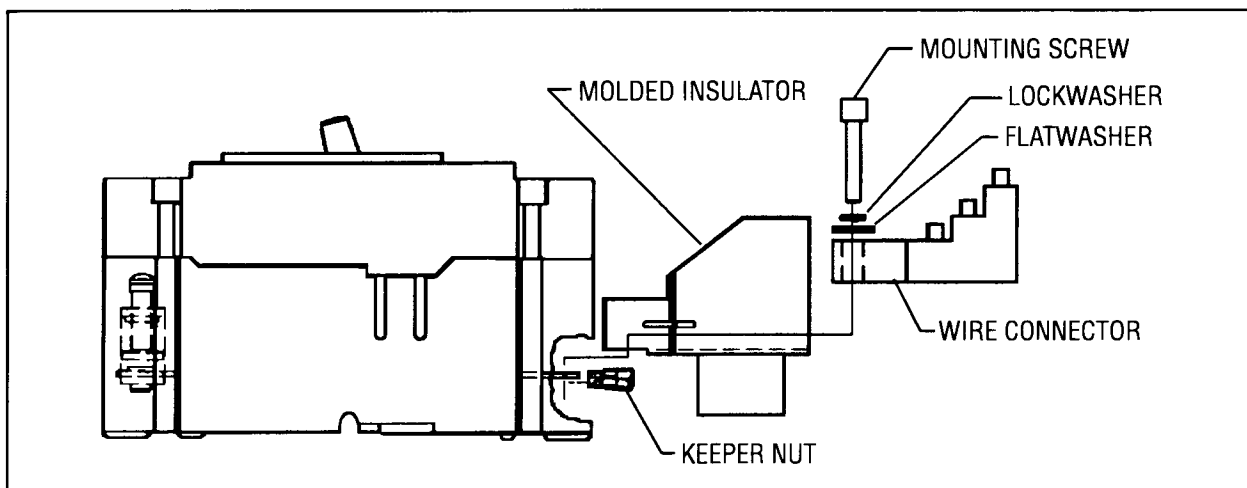

Figure 1. Typical F-Frame Circuit Breaker Installation
If circuit breaker is installed in equipment, it **MUST** be removed from equipment for installation of this kit. This kit is intended for use **ONLY** on the **LOAD END** of the circuit breaker. See Figure 1.
2. Install keeper nuts on all **LOAD END** terminals of breaker as shown in Figure 1.
3. Place kit wire connector into molded insulator as shown in Figure 1.
4. Place molded insulator and wire connector on top of breaker terminals as shown in Figure 1.
5. Install provided mounting screw, lockwasher and flat washer as shown in Figure 1. Torque mounting screw to 35 lb.-in.